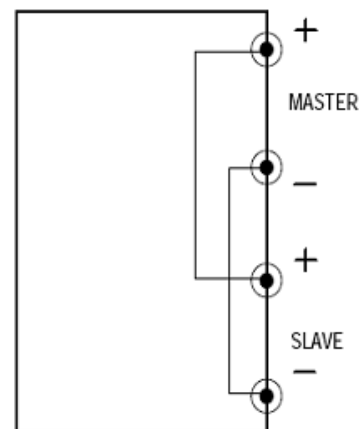

Figure 3: Parallel Tracking Inside config
1. Set the tracking buttons to the option choosing the parallel connection. This is actually the parallel tracking mode. Internally the configuration is as Figure 3 on the right.